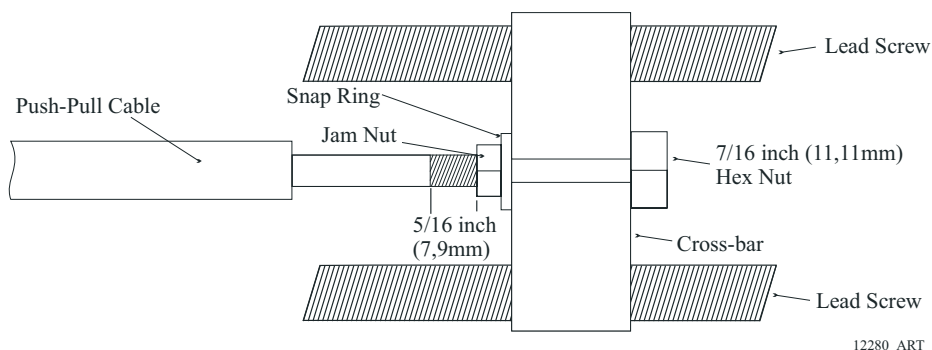

Figure 4-16: Processor Push-Pull Cable Interior Connections
- E Connect the push-pull cables to the hex nuts (See Figure 4-16: Processor Push-Pull Cable Interior Connections). Use a 7/16 inch socket to turn the hex nut onto the cable rod end until there is approximately 5/16 inch (7,9mm) of thread showing beyond the jam nut.